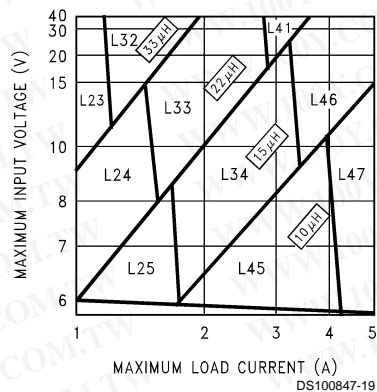
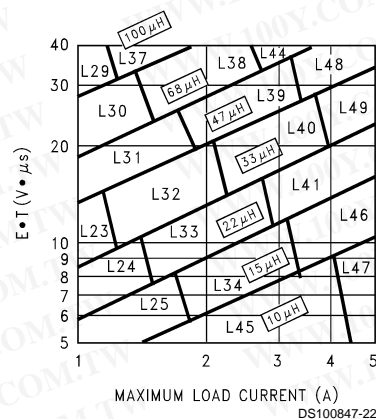

FIGURE 3. LM2679-3.3
FIGURE 6. LM2679-ADJ
Step 3: Determine the inductor required by using one of the four nomographs, *Figure 3* through *Figure 6*. Table 1 provides a specific manufacturer and part number for the inductor.
Step 5: Determine an input capacitor from Table 4 for fixed output voltage applications. Use Table 2 to find the specific capacitor type. For adjustable output circuits select a capacitor from Table 2 with a sufficient working voltage (WV) rating greater than $V_{in\ max}$, and an rms current rating greater than one-half the maximum load current (2 or more capacitors in parallel may be required).
Step 3: Use the nomograph for the 3.3V device, *Figure 3*. The intersection of the 16V horizontal line ($V_{in\ max}$) and the 4A vertical line ($I_{load\ max}$) indicates that L46, a 15 μ H inductor, is required.
Step 3: To use the nomograph for the adjustable device, Figure 6, requires a calculation of the inductor Volt-microsecond constant ($E \cdot T$ expressed in $V \cdot \mu\text{s}$) from the following formula:
Using Figure 6, the intersection of $27V \cdot \mu\text{s}$ horizontally and the 3.5A vertical line ($I_{load \text{ max}}$) indicates that L48, a 47 μH inductor, or L49, a 33 μH inductor could be used. Either inductor will be suitable, but for this example selecting the larger inductance will result in lower ripple current.
Important Note: When using the adjustable device in low voltage applications (less than 3V output), if the nomograph, Figure 6, selects an inductance of 22 μH or less, Table 6 does not provide an output capacitor solution. With these conditions the number of output capacitors required for stable operation becomes impractical. It is recommended to use either a 33 μH or 47 μH inductor and the output capacitors from Table 6.